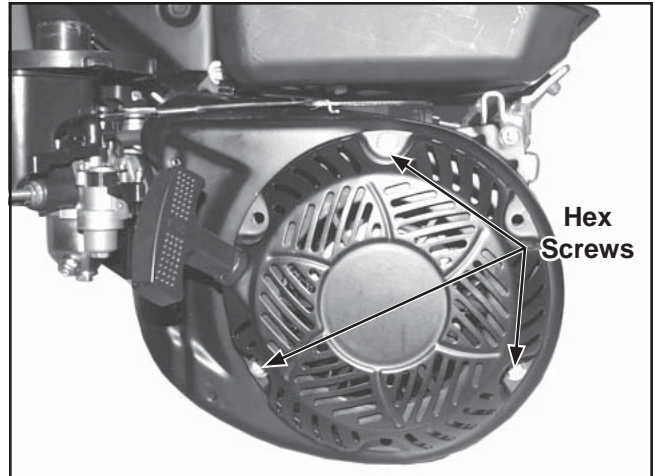

Figure 9-17. Removing Starter Mounting Screws.
1. Remove the three hex flange screws securing the retractable starter to the blower housing. Remove the starter. See Figure 9-17.